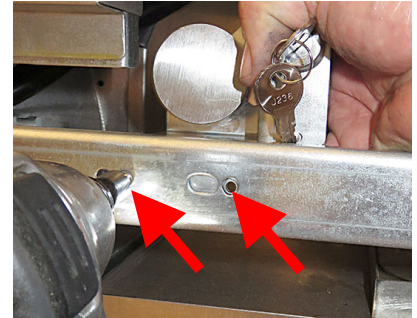

Figure 17
21. Attach dispose valve handle bracket, with 2 cabinet screws, to front rail using existing holes (see Figure 17).